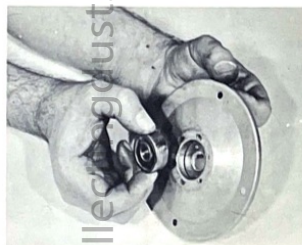

Figure 1-24. Installing front bearing in bearing plate
j. Position the felt washer (24, fig. 1-1) and the thrust washer (25) with the bent tabs toward the felt washer in the front bearing plate (23). Make sure that the front bearing (26) has been packed with special high consistency grease and that the open side of the bearing is toward the thrust washer; push the front bearing firmly into place in the bearing plate as shown in figure 1-24. In models where used, or if the bearing is not a tight fit in the bearing plate, install a corrugated strip (30, fig. 1-1) in the bearing plate, so that the notch engages the slot of the bearing plate, before pushing the bearing into place.